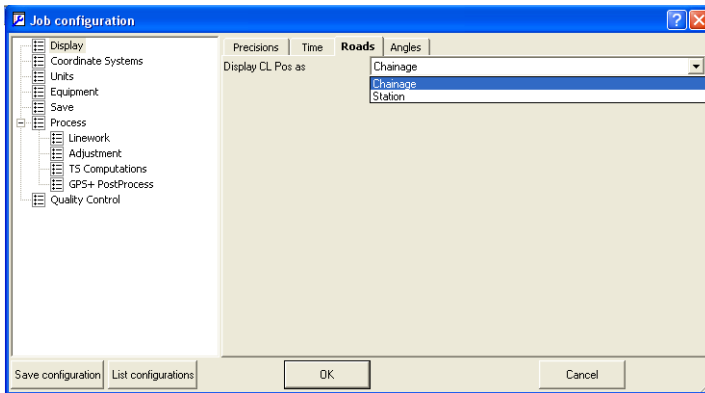

Figure 2-13. Job Configuration – Roads Tab
- The *Roads* tab (Figure 2-13 on page 2-8) sets the type of number to use for the centerline position.